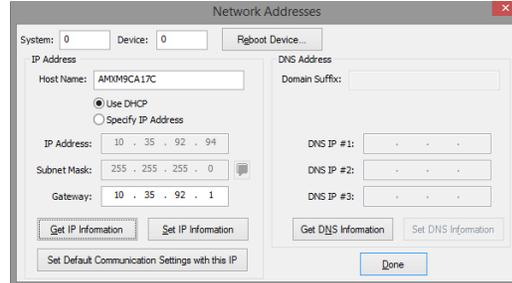

FIG. 5 NETLINX STUDIO - NETWORK ADDRESSES DIALOG
- Select **Diagnostics > Network Addresses** to open the *Network Addresses* dialog and press **Get IP Information** to populate the fields with the current settings (FIG. 5):